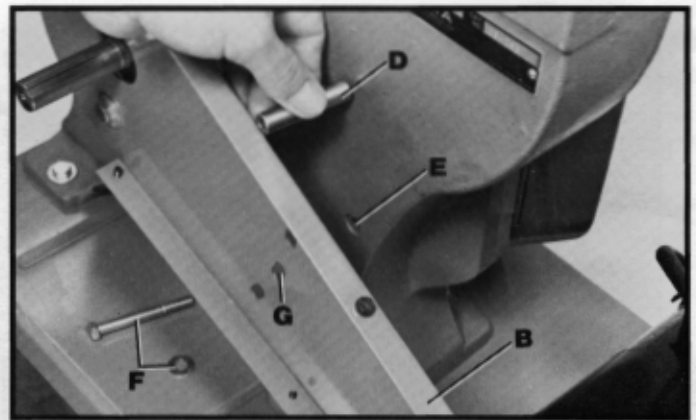

Fig. 16
3. Place the spacer (D) Fig. 16, into the countersunk hole (E) located behind the belt and pulley guard (B). Then insert the 2 3/4-inch hex head cap screw with flat washer (F) into the center hole (G), through the spacer (D) and thread it into the tapped hole (E).